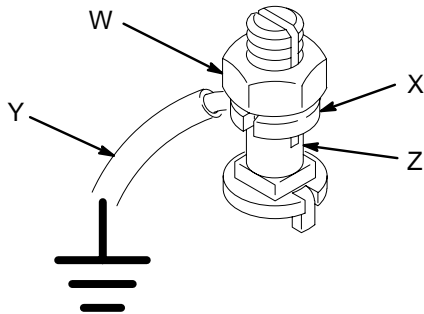

Fig. 1
- **Pump:** Check the ground wire and clamp. See Fig. 1. To install, loosen the grounding lug locknut (W) and washer (X). Insert one end of a 1.5 mm2 (12 ga) minimum ground wire (Y) into the slot in the lug (Z), and tighten the locknut securely. Connect the other end of the wire to a true earth ground.